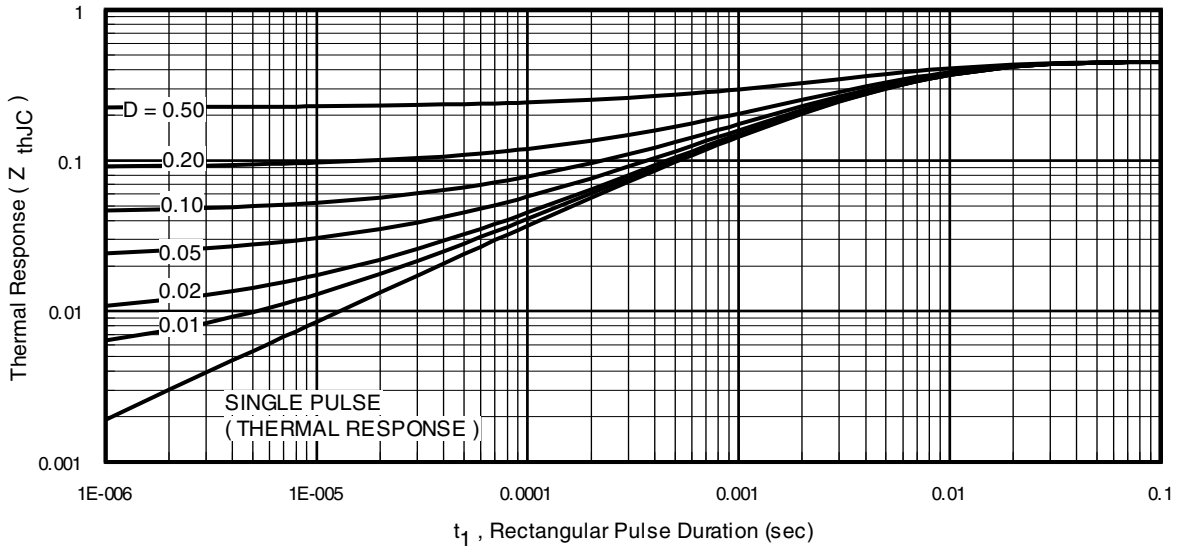
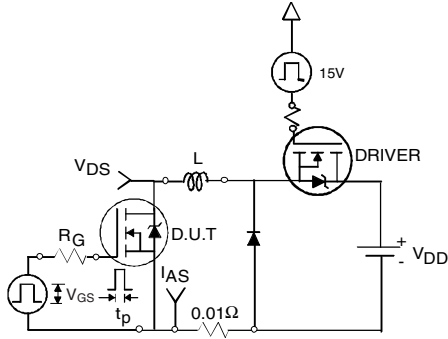

Fig 11. Maximum Effective Transient Thermal Impedance, Junction-to-Case
Fig 12a. Unclamped Inductive Test Circuit
- ① Repetitive rating; pulse width limited by max. junction temperature. (See fig. 11).
- ② Limited by T_{Jmax}; starting T_J = 25°C, L=0.24mH, R_G = 25Ω, I_{AS} = 75A, V_{GS} = 10V. Part not recommended for use above this value.
- ③ I_{SD} ≤ 75A, di/dt ≤ 220A/μs, V_{DD} ≤ V_{(BR)DSS}, T_J ≤ 175°C
- ④ Pulse width ≤ 1.0ms; duty cycle ≤ 2%.
- ⑤ C_{OSS eff.} is a fixed capacitance that gives the same charging time as C_{OSS} while V_{DS} is rising from 0 to 80% V_{DS}.
- ⑥ Limited by T_{Jmax}, see Fig.12a, 12b, 15, 16 for typical repetitive avalanche performance.
- ⑦ This value determined from sample failure population. 100% tested to this value in production.
3. Equation below based on circuit and waveforms shown in Figures 12a, 12b.
$Z_{thJC}(D, t_{av})$ = Transient thermal resistance, see figure 11)